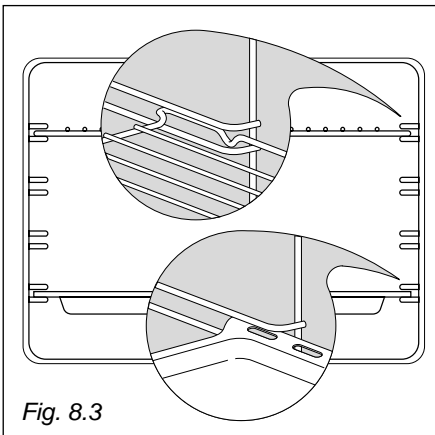

Fig. 8.3
- Slide in, on the guides, the shelf and the tray etc. (Figure 8.3). The shelf must be fitted so that the safety catch, which stops it sliding out, faces the inside of the oven.